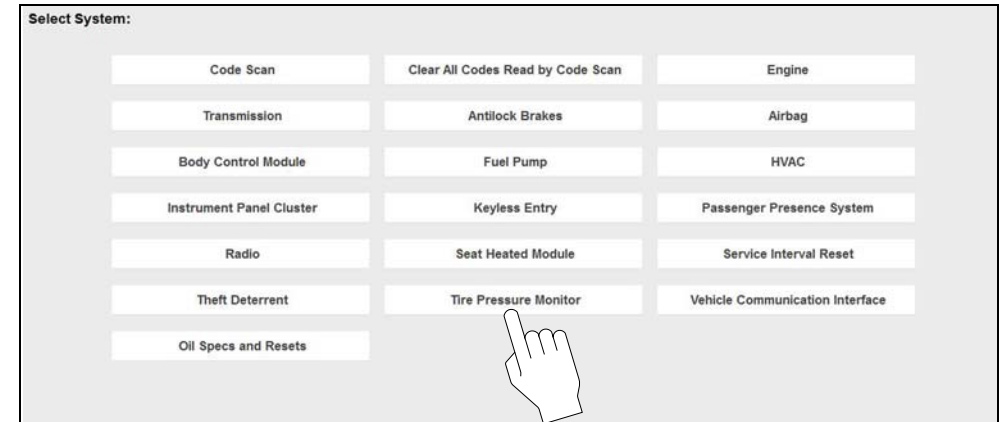

Figure 10-14 Scanner System Menu
- **From within a current Scanner session** - select **Tire and Wheel Service** (or applicable choice) from the System menu (Figure 10-14), then proceed to Step 3 below.